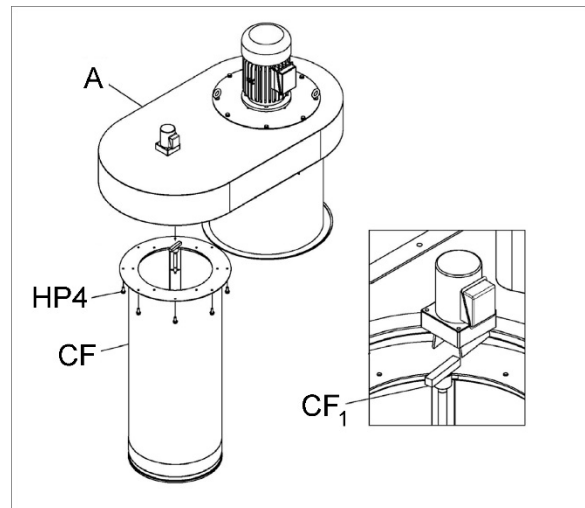

Figure 10
16. Install canister filter (CF, Figure 10) to housing, aligning the rod finial (CF₁) with the slot in the reduction motor platform.